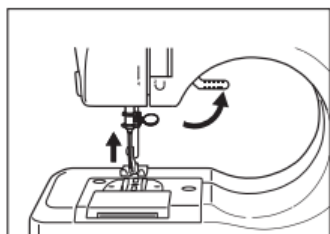

Fig.7
2. Raise the presser foot lifter and place the fabric you want to sew under the presser foot (Fig.7).